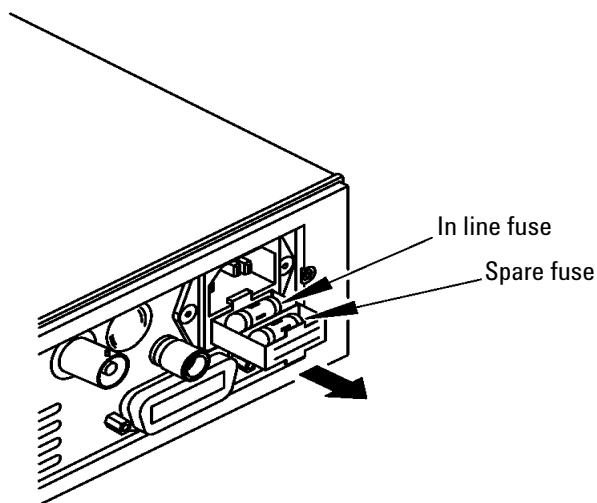

Figure 2-24 Replacing the Fuse
- 2 Slide the fuse holder assembly from the rear panel as shown in Figure 2-24.
- 3 Install the correct fuse in the “In line” position as shown in Figure 2-24. (A spare fuse can be stored in the fuse holder assembly.)